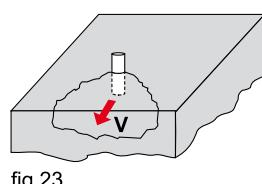

fig.23
- Concrete edge failure (fig.23): where the shear force acting towards the base material edge breaks the edge.